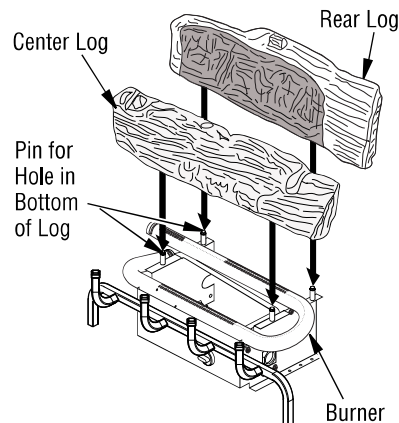

Figure 18 - Installing Rear and Middle Logs (Picture may vary from actual)
1. Place rear log onto base. Holes in bottom of log must seat over pins on base as shown in **Figure 18**.
2. Place center log onto base. Holes in bottom of log must seat over pins on base as shown in **Figure 18**.